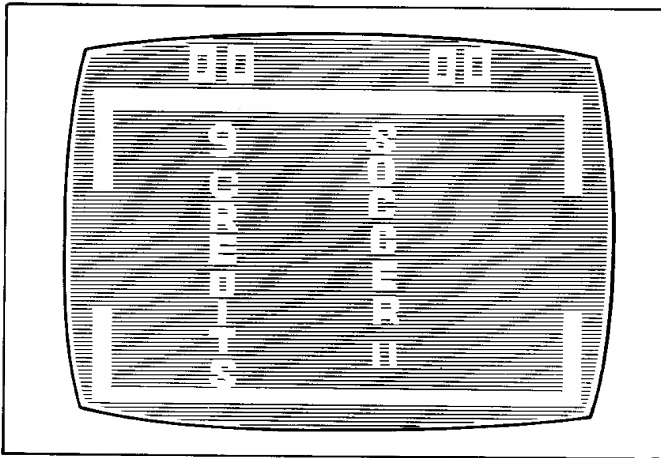

Figure 2-2 Typical TV Monitor Display During Ready-To-Play Mode
B. READY-TO-PLAY MODE (See Figure 2-2)